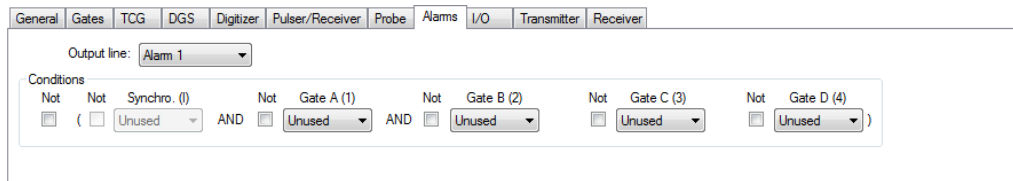

Figure 4-66 The Alarms tab
2. In the **Alarms** section of the **UT Settings** dialog bar, configure the alarms that will trigger the A-scan to be recorded. Three different alarms can be configured, all of which will have the same effect. See Figure 4-66 on page 292.